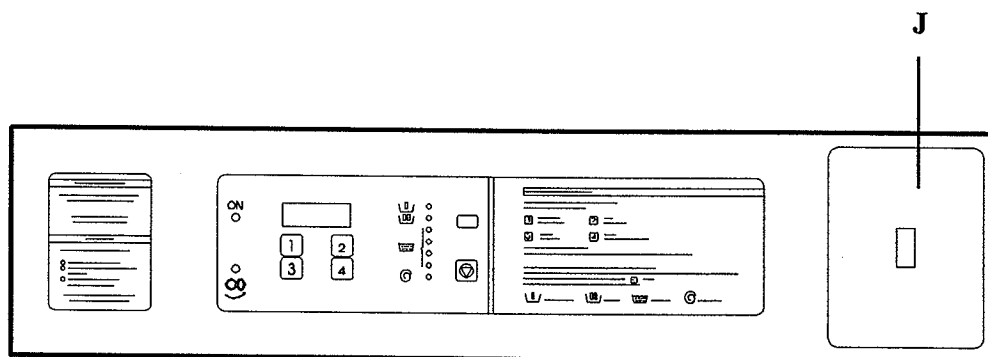

fig. 11
Start Push-button (J). (fig. 11)
Pulsador de marcha (J). (fig.11)
Bouton-poussoir de marche (J). (fig.11)